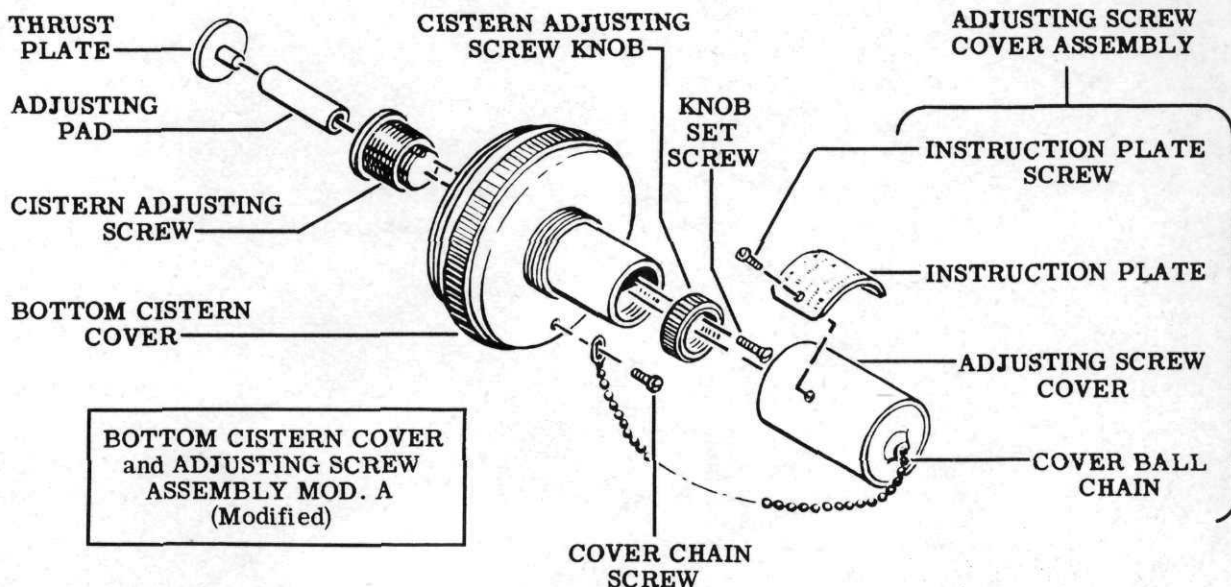

Figure 26
1. Assemble the cistern adjusting screw into the bottom cistern cover by screwing it into the cover from the inside. See the exploded view, Fig. 26.
2. Apply a thin coating of anti-seize lubrication to the inner thread of the cistern adjusting screw knob. See "Anti-seize Lubrication" in the Control Manual. Assemble the cistern adjusting screw knob on the end of the cistern adjusting screw which protrudes from the bottom of the cistern cover. Align the holes in the adjusting screw and knob for assembly of the knob set screw; then screw in the knob set screw. See the exploded view, Fig. 26.
3. Assemble the instruction plate to the adjusting screw cover with two instruction plate screws. The cover ball chain being already assembled in the cover, this operation will complete the assembly of the adjusting screw cover assembly. See the exploded view, Fig. 26.
4. Assemble the cover ball chain to the bottom cistern cover with the cover chain screw. Screw the adjusting screw cover onto the bottom cistern cover. See the exploded view, Fig. 26.
5. Press the adjusting pad into the hole provided for it in the cistern adjusting screw. Insure that it is seated on the bottom of the hole. Then assemble the thrust plate in the exposed end of the adjusting pad. See the exploded view, Fig. 26.